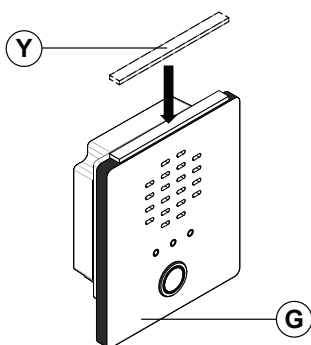
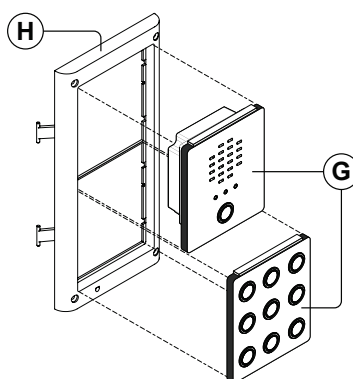
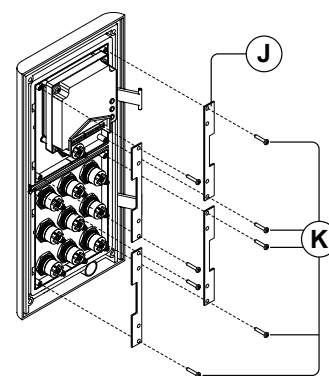

Fig. 54
Fig. 55
Fig. 56
3. Next fit the neoprene seal **(Y)** (removing the thin film first) along the top side of the module **(G)**, as shown in **Fig.54**;
4. Before installation of the module support frame **(H)** to the surface box **(C)**, fit the module **(G)** to the support frame **(H)** as shown in **Fig.55** then, as shown in **Fig.56**, fit the module fixing brackets **(J)** using the fixing screws **(K)**;
4. Follow steps 3 and 4, from 'installing a surface mounting door station', to fit the module into the module support frame (H) as shown in **Fig.54, Fig.55 and Fig.56** (on pages 33 and 34);